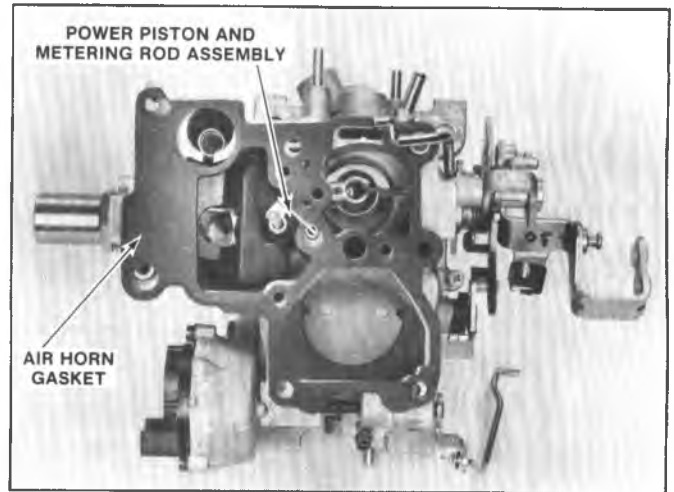

Fig. 6C2-25--Float Bowl
**Float Bowl Disassembly (Fig. 6C2-25)**